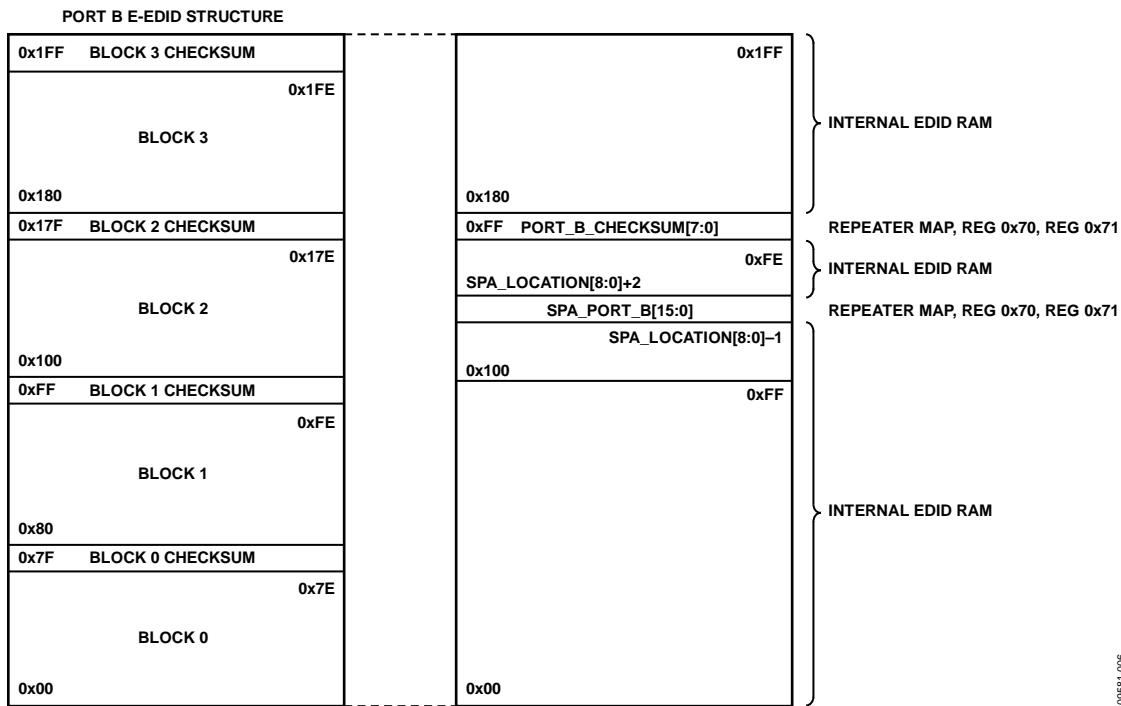

Figure 7. Port B E-EDID Structure and Mapping for SPA Located in E-EDID Block 2
- Figure 7—SPA located in E-EDID Block 2